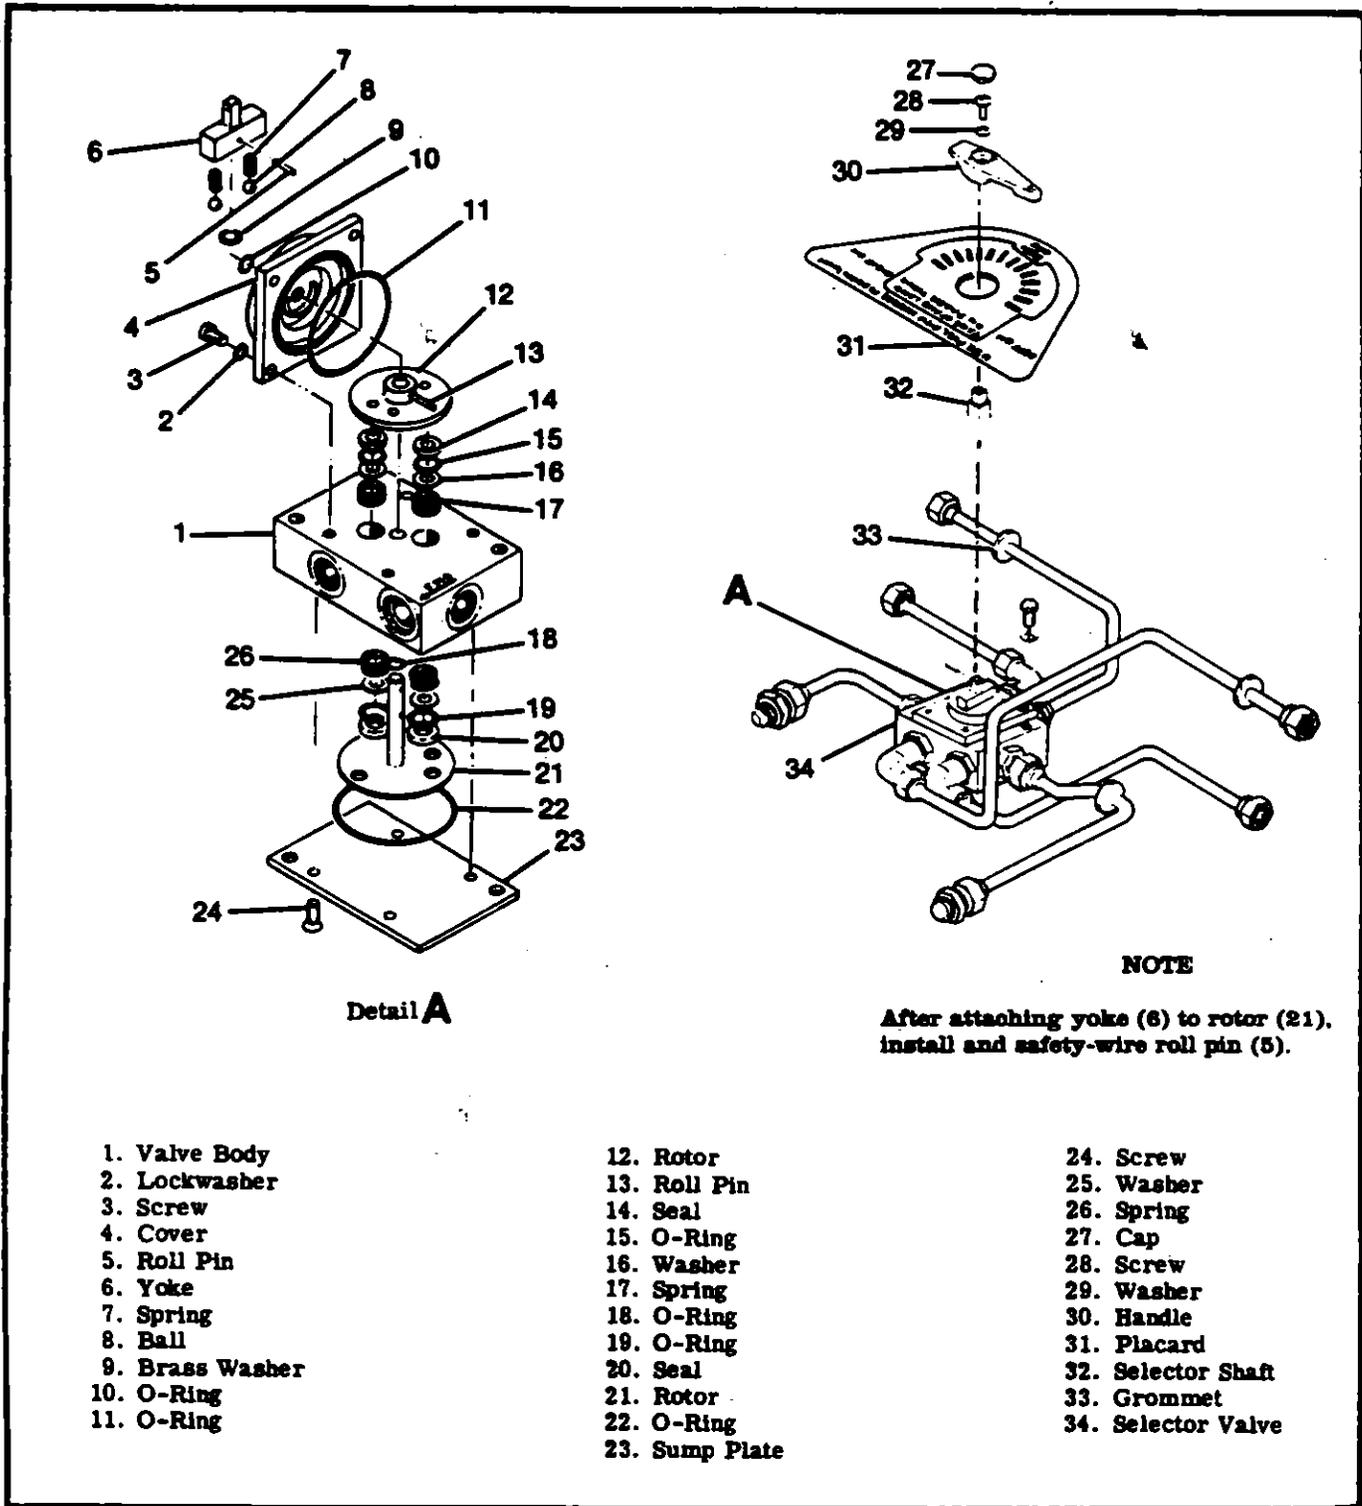

Figure 13-7. Fuel Selector Valve Assembly
13-29. FUEL SELECTOR VALVE REPAIR. (See figure 13-7.) The fuel selector valve may be repaired by disassembly, replacement of defective parts, and reassembly as follows:
- j. Install O-ring (18) in body shaft hole. Install O-rings (19) and teflon seals (20), then slide shaft and rotor into place. Position rotor in exact relative position shown in figure 13-7, then install O-ring (22) and sump plate (23).